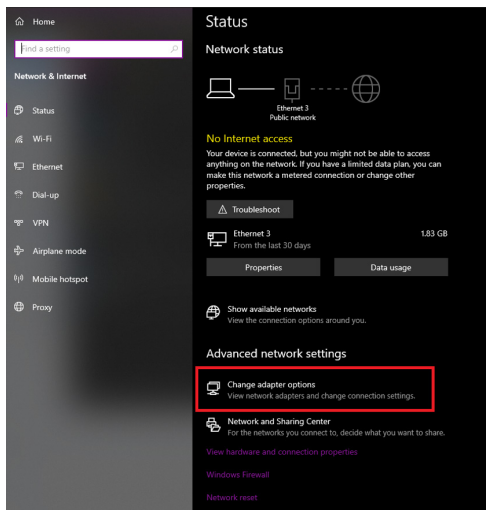

Figure 5
- Click **Change adapter options**. (Figure 5)